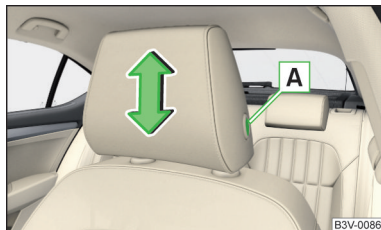

Fig. 82
- Press and hold the safety button **A** » Fig. 82.